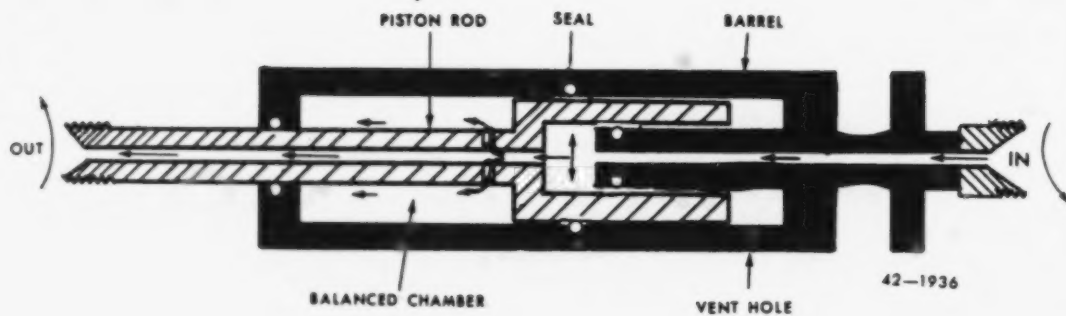

Figure 5-29. Balanced extension unit.
Another type of swivel used is called a balanced extension unit. It not only rotates 360° around its lateral axis, but it will extend and retract also. Balanced extension units similar to the one illustrated in figure 5-29 are used in place of flexible hose to transfer fluid pressure from a fixed
4. Refer to figure 5-29. What is the only force that must be overcome in order to extend or retract the unit?
5. Refer to figure 5-29. What unit slides in and out of the barrel?